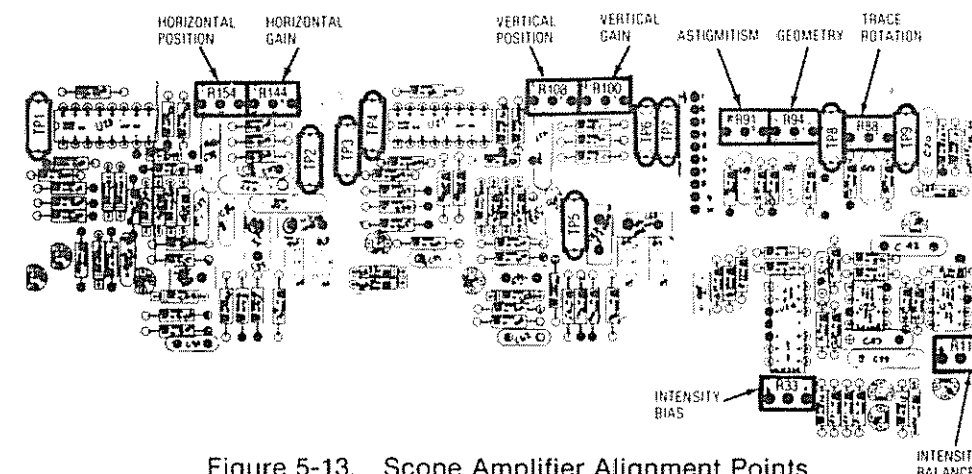

Figure 5-13. Scope Amplifier Alignment Points
2. Adjust the Intensity Bias potentiometer (Figure 5-13) until a dot appears on the screen. (The Vertical and Horizontal Position Control on the front panel may have to be used to bring the dot on to the screen.) Then back off the Intensity Bias potentiometer until the dot just disappears.
2. Adjust the Intensity Balance potentiometer (Figure 5-13) for uniform intensity of the horizontal trace from left to right. The Balance potentiometer affects the intensity on the left side of the trace.
2. With the Test Point Shorting Jumper connect TP1 of the Scope Amplifier Board (Figure 5-13) to chassis ground.
3. Adjust the Horizontal Position Potentiometer (Figure 5-13) so that the vertical trace on the CRT screen passes through the graticule center point.
2. With the Test Point Shorting Jumper connect TP4 of the Scope Amplifier Board (Figure 5-13) to chassis ground.
3. Adjust the Vertical Position Potentiometer (Figure 5-13) so that the horizontal trace on the CRT screen passes through the graticule center point.
2. While using the Focus Control to maintain a focused display at the center of the CRT, adjust the Astigmatism and Geometry potentiometers (Figure 5-13) for the best focus at the outer edges of the CRT while minimizing the pincushion and barrel distortion of the display. The two adjustments are interactive so that repeated small adjustments alternated between the two potentiometers will be required to obtain the best display.
3. Connect an oscilloscope with a calibrated vertical input to TP1 on the Scope Amplifier Board. (Figure 5-13).
5. With 3V p-p at TP1 adjust the Horizontal Gain Potentiometer (Figure 5-13) for a horizontal trace 6 cm long on the CRT. (Use the front panel controls to position the trace at a convenient place near the center of the CRT).
4. Connect an oscilloscope with a calibrated vertical input to TP4 on the Scope Amplifier Board. (Figure 5-13).
6. With 3V p-p at TP4 adjust the Vertical Gain Potentiometer (Figure 5-13) for a 6 cm p-p sinewave on the CRT. (use the front panel Position Controls to center the waveform on the CRT).